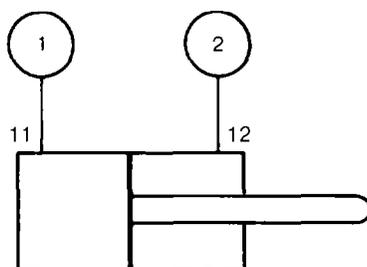

Figure 85 Test Connections
- a. Connect the cylinder to the test rig as shown in Fig 85.